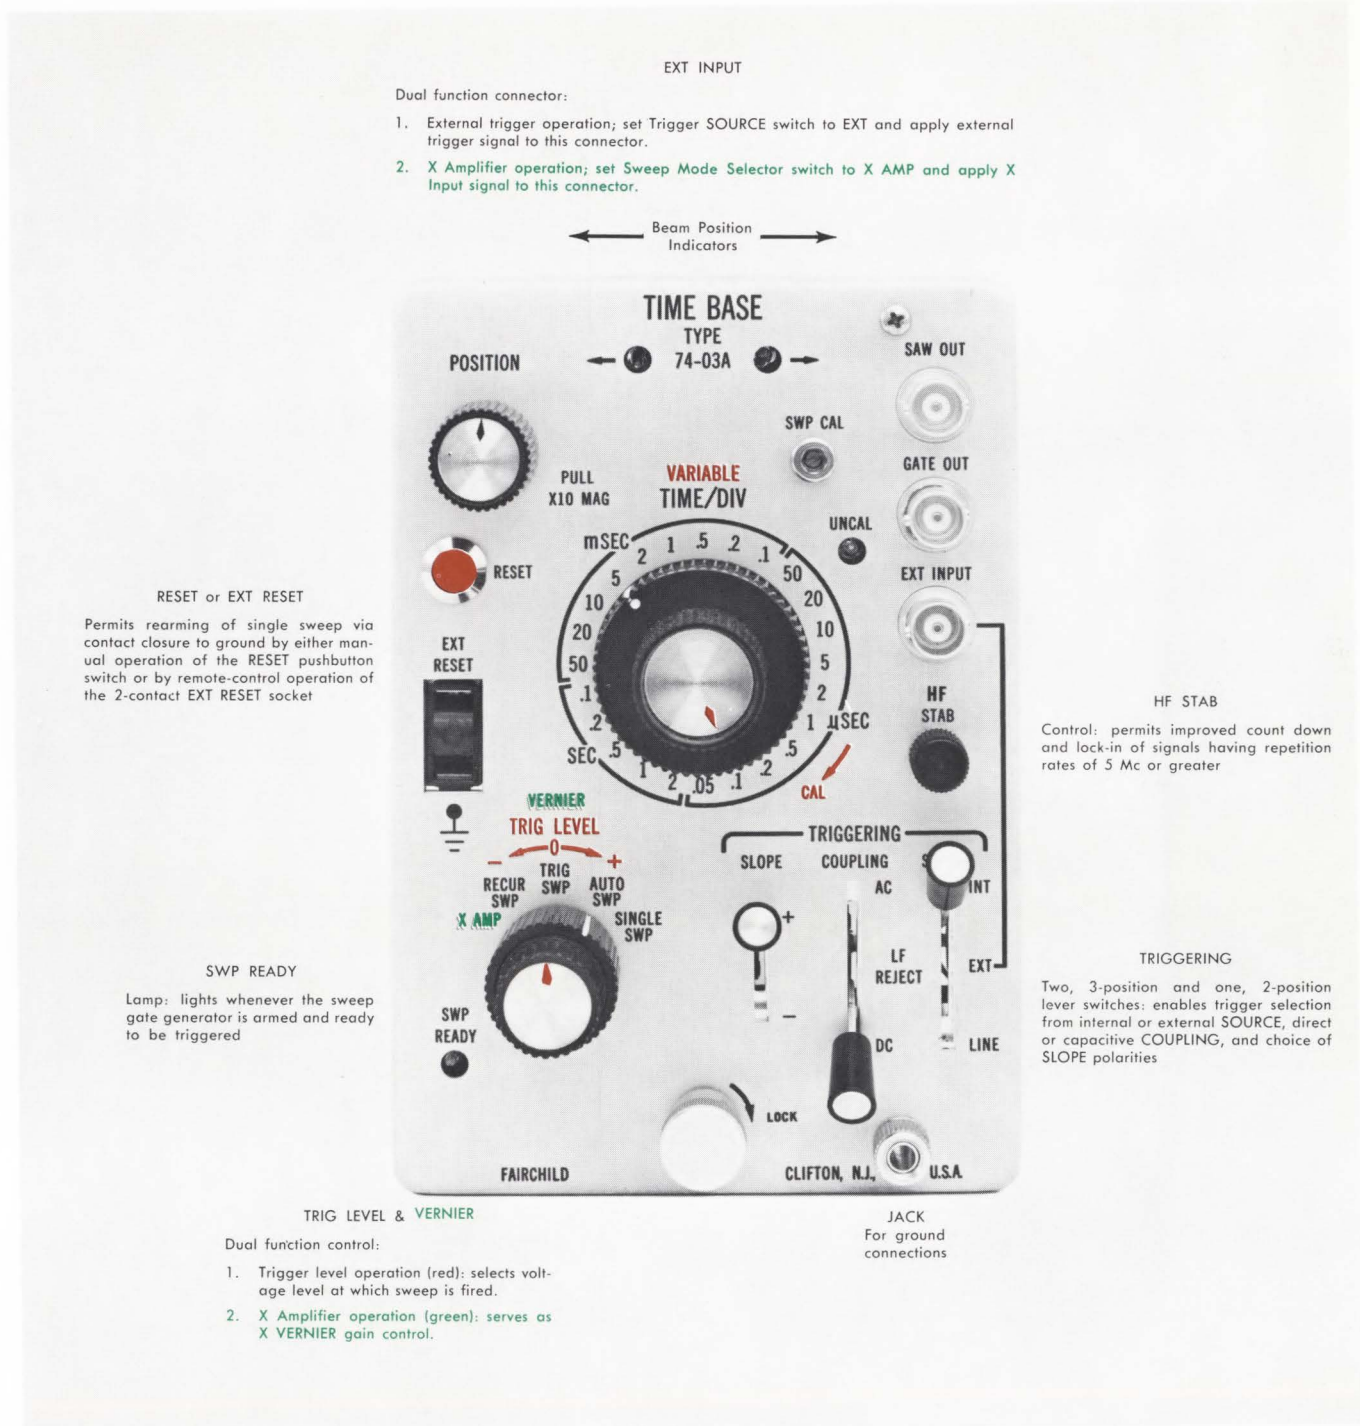

Figure 2-2. Front-Panel Facilities, Triggering and External Input
- Figure 2-2. Front-Panel Facilities, Triggering and External Input